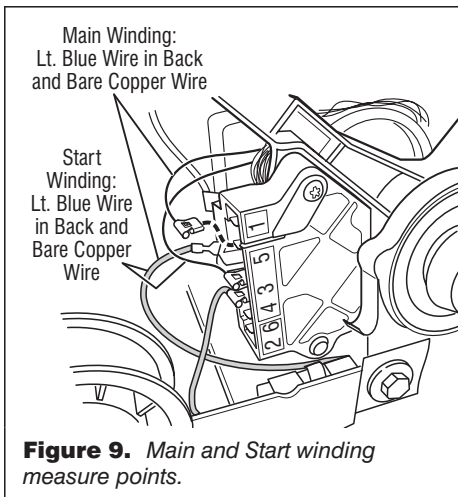

Figure 9. Main and Start winding measure points.
6. Remove the bare copper wire terminal from pin 5 of black drive motor switch. See figure 9.
7. Using figure 9, check for the resistance values of the motor's Main and Start winding coils as shown in the following table.